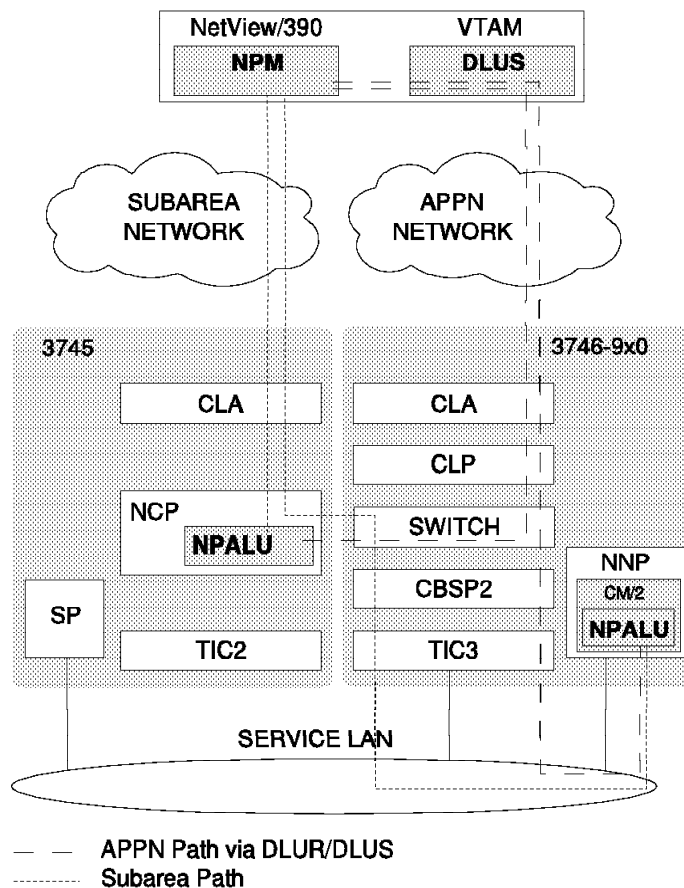

Figure 37-2. APPN/HPR Performance Monitoring Activities (3746 NN)
4. The NPALU is connected either over a subarea path, or over an APPN path to the host NPM. Figure 37-2 on page 37-3 shows these paths.
**Note:** Figure 37-2 shows NPM data being transmitted from the NNP over the service LAN to the 3746 or 3745. Although it is recommended that no stations use the service LAN for user data, using a path over the service LAN and PORT2080 for NPM data is acceptable.